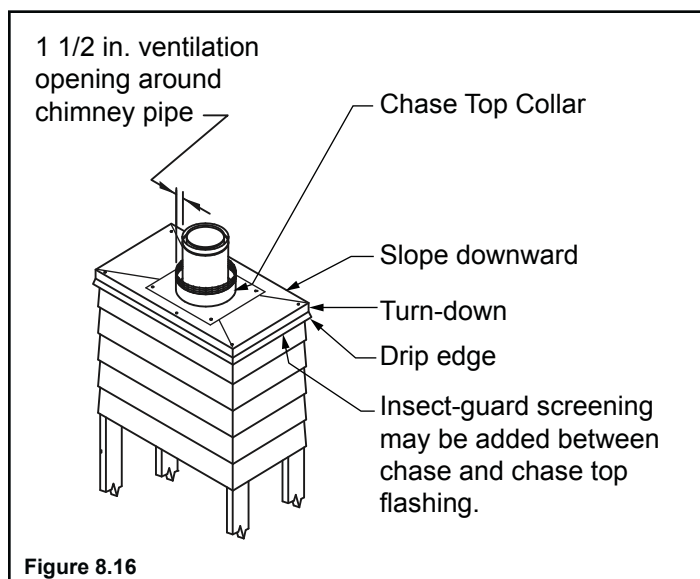

Figure 8.16
- Include a minimum 1 in. turn down and a 1/2 in. drip edge (optional) to prevent water from seeping into the chase. Refer to Figure 8.16.